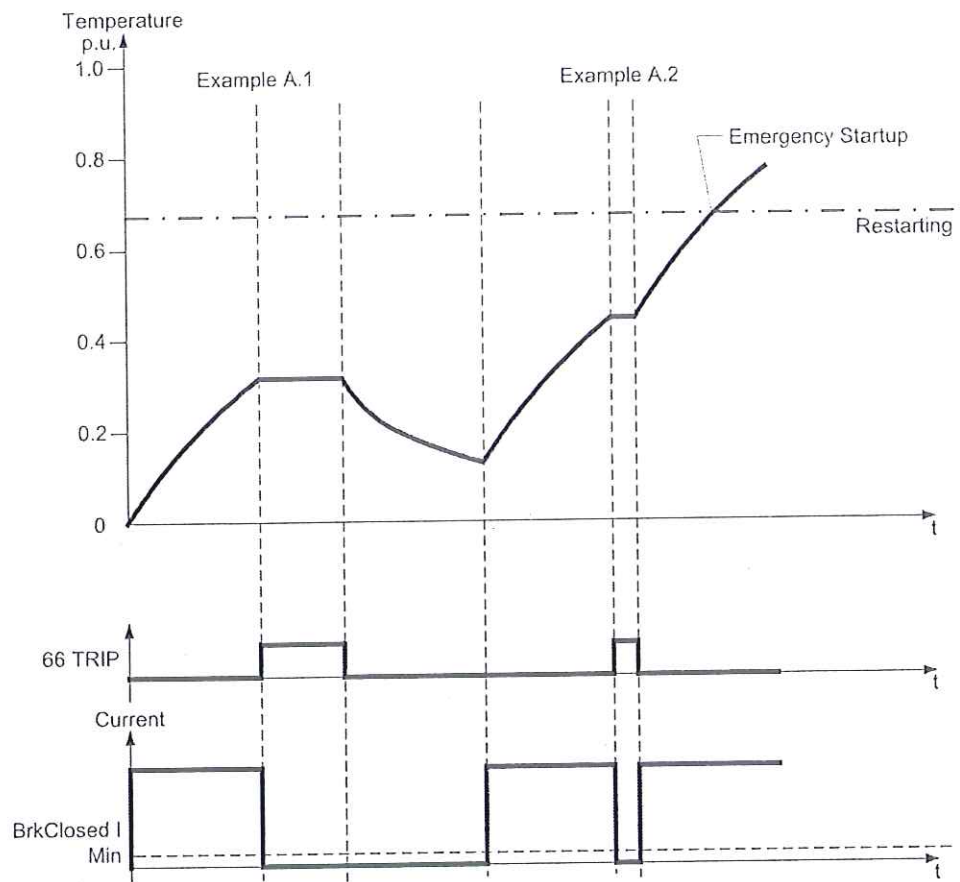

Figure 2-33 Startups according to examples A.1 and A.2
1. A normal startup brings the machine into a temperature range below the thermal restarting limit and the machine is stopped. The stop launches the equilibrium time 4304 **T Equal** and generates the message "66 TRIP". The equilibrium time expires and the message "66 TRIP" is cleared. During the time **T Equal** the thermal model remains "frozen" (see Figure 2-33, to the left).
2. A normal startup brings the machine into a temperature range below the thermal restarting limit, the machine is stopped and is started by an emergency startup without waiting for expiry of the equilibrium time. The equilibrium time is reset and the thermal profile is released and "66 TRIP" is reported to be cleared (see Figure 2-33, to the right).